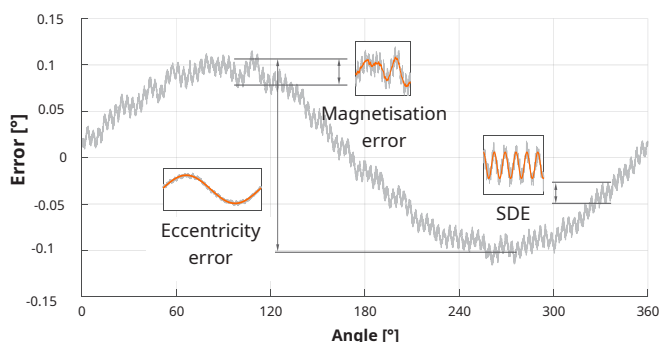

Fig. 1. Typical accuracy error plot.
The accuracy of the ring encoder measurement is influenced by **encoder accuracy errors** and **installation-dependent errors**. In order to evaluate the total accuracy, each of the significant errors must be considered. Fig. 1 shows a typical accuracy error plot with marked particular influences.
**Fig. 1 to Fig. 4 are for representation purpose only.**